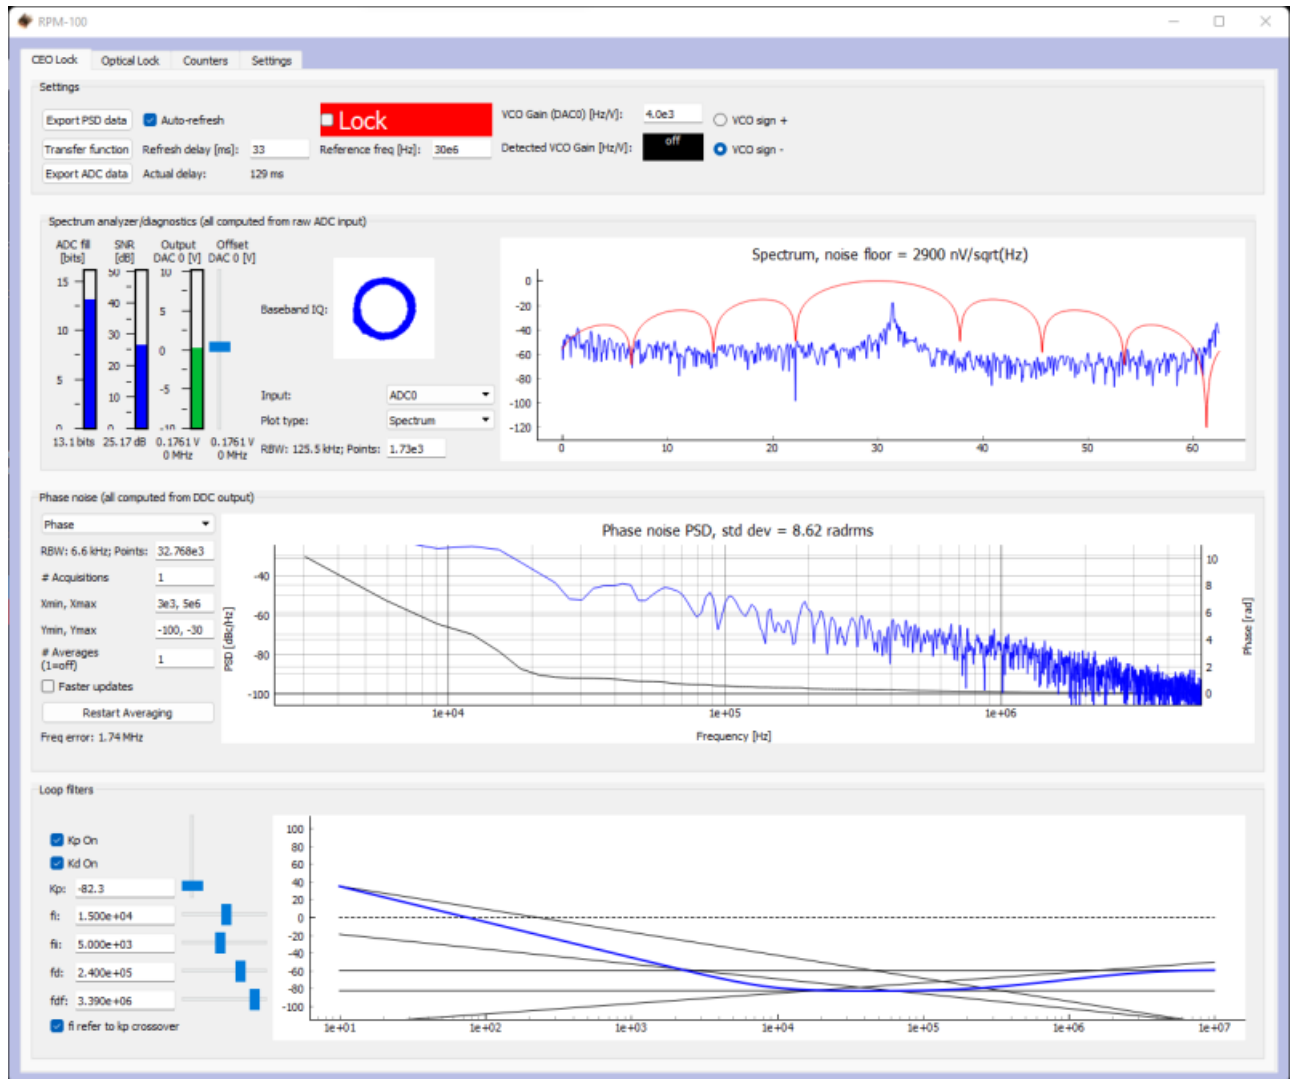

Fig. 9: Centering  $f(\text{CEO})$  on reference frequency (Baseband IQ optimization)
1. Navigate to the “CEO Lock” tab and adjust the “Offset DAC 0” slider near the top left by clicking and dragging the slider until the data in the Baseband IQ plot is circular and the beat note is visibly centered under the middle red filter band (figure 9). It is also possible to adjust the FFC-100 oscillator current on its front panel to make this adjustment.